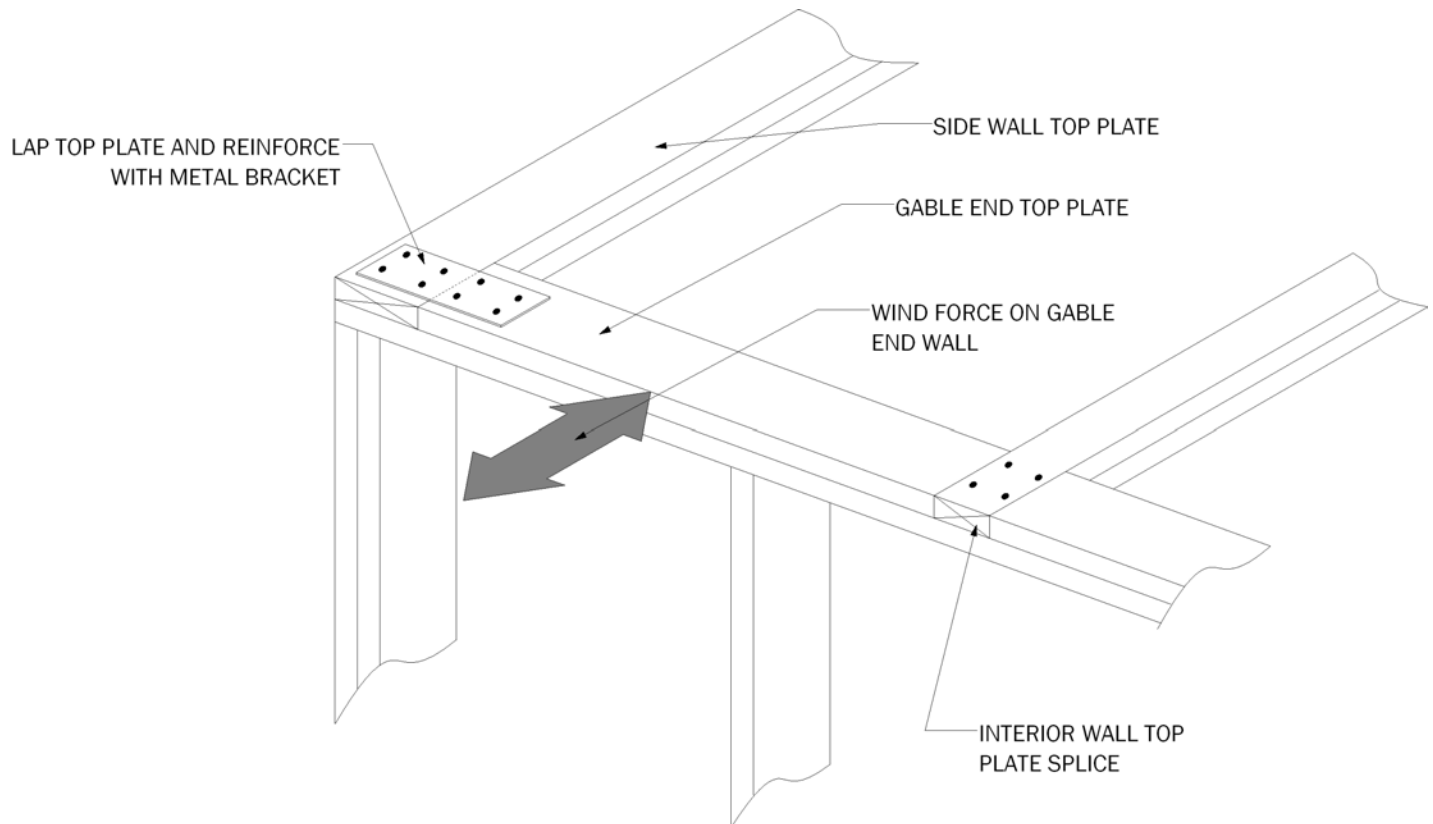

Figure 3 – Lapped and Reinforced Top Plate at Corner of Gable End Wall
7. Securely tie interior wall top plates and exterior side wall top plates into the gable end wall top plate (see Figure 3).